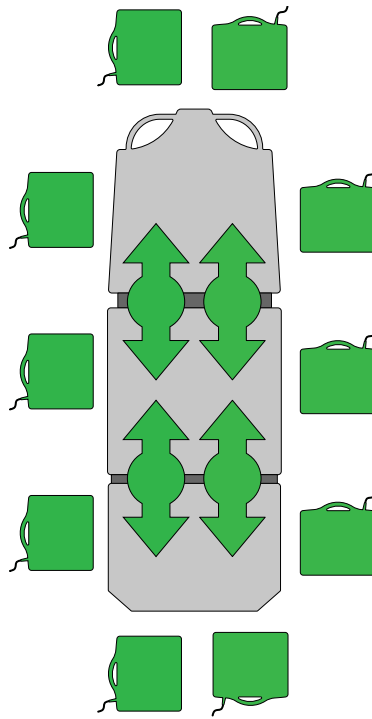

Figure 39 – Inserting or removing X-ray cassettes on Prime X
1. Center the patient on the product with the position indicator labels located on all sides of the product (Figure 39).